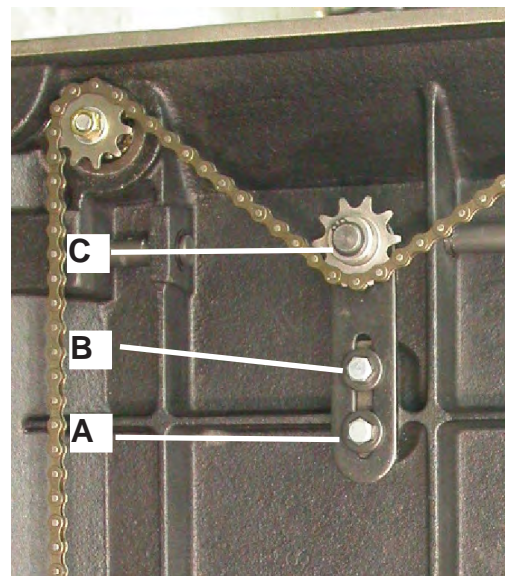

Fig 25
2. Tilt planer on its side to expose underside of base, as shown in Fig. 25